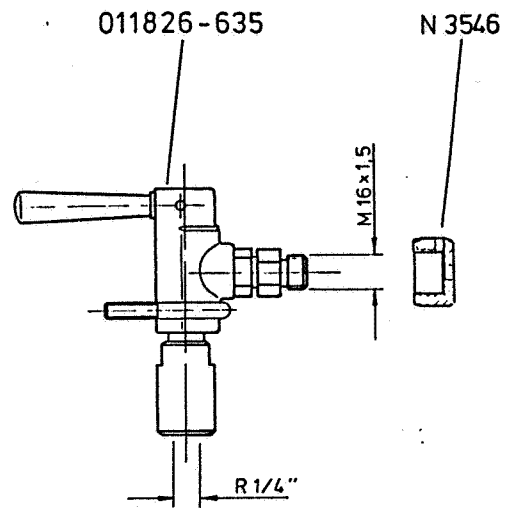

Fig. 17.2 Filling valve with cap plug
- Use plug N 3546 for filling valves with hose connector M 16 x 1,5, see fig. 17.2.